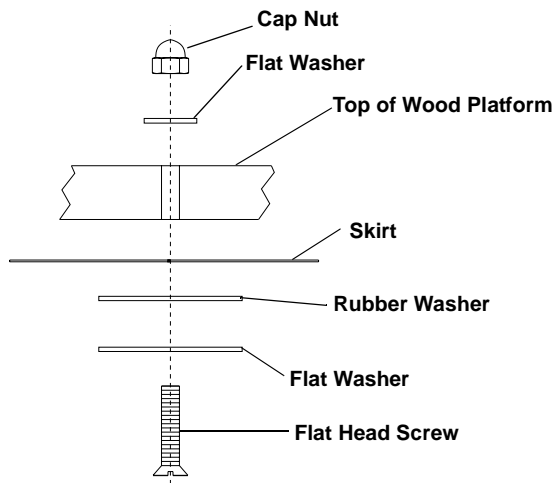

Figure 2. Attach center of skirt
10. Using the included hardware, attach the center of the skirt to the wood platform. (See figure 2.)